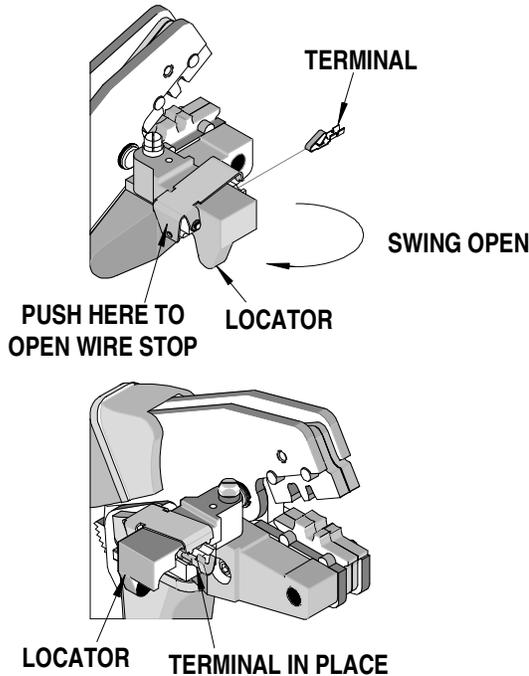

Figure 2
2. Swing the terminal locator away from the crimp tool shown in Figure 2. Some terminals with large insulation grips may interfere with the crimp tooling when swinging the locator into position. The terminal must then be loaded into the locator in the closed/crimp position.
3. Press down on the wire stop on the locator as shown in Figure 2. Insert the proper terminal into the proper nest opening. Make sure when choosing the nest opening, it will correspond with the A or B profile on the hand tool.